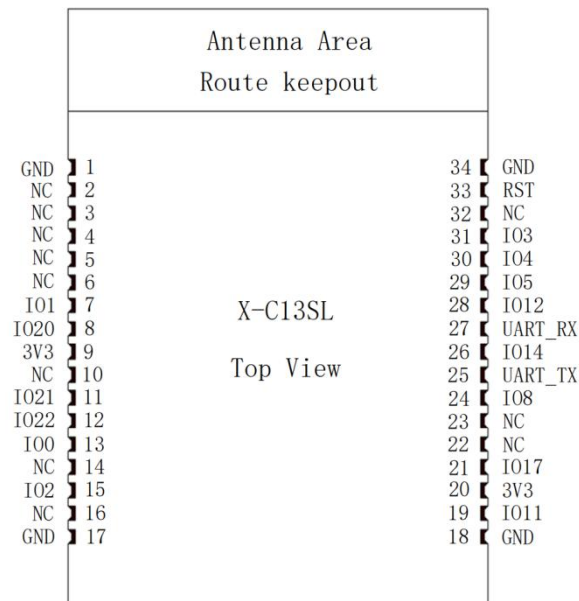

Figure 2. X-C13SL Pin Layout (Top View)
| FIGURE 2. X-C13SL PIN LAYOUT (TOP VIEW)..... | 8  |
- X-C13SL comes with a on-board PCB antenna, please refer to Figure 2.